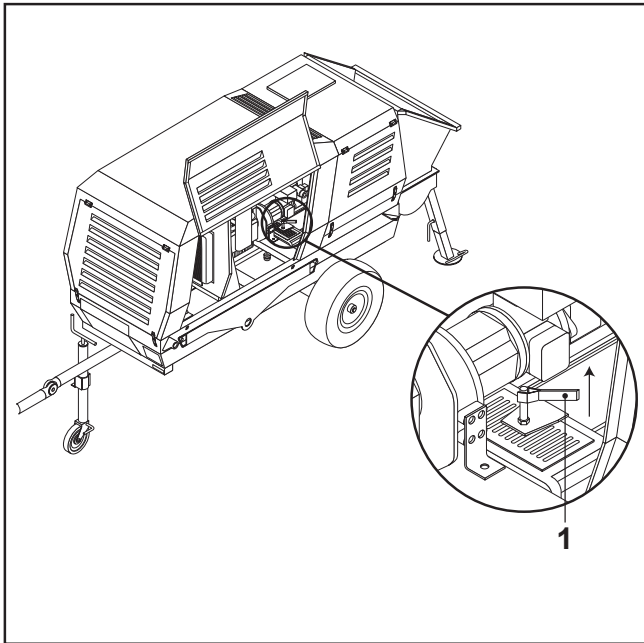

FIG.57
- Open the discharge lever (FIG. 57-REF. 1) to empty the tank.
- Turn the lever (FIG. 57-REF. 1) to its horizontal position to close the tank.